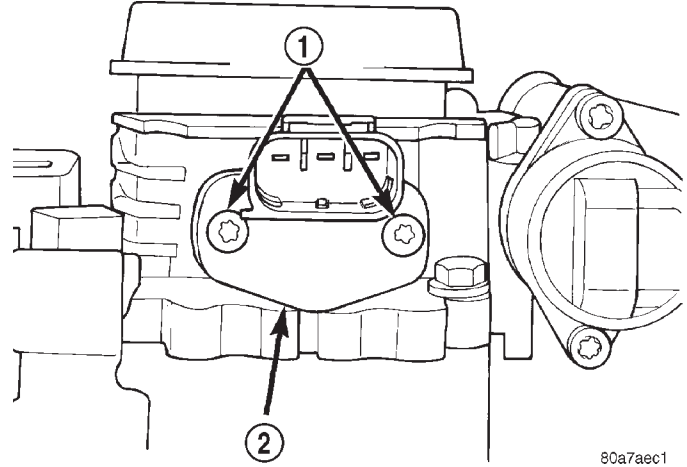

Fig. 26 TPS Mounting Screws
- (1) Remove air cleaner tube at throttle body.
- (2) Disconnect TPS electrical connector.
- (3) Remove TPS mounting screws (Fig. 26).
- (4) Remove TPS.